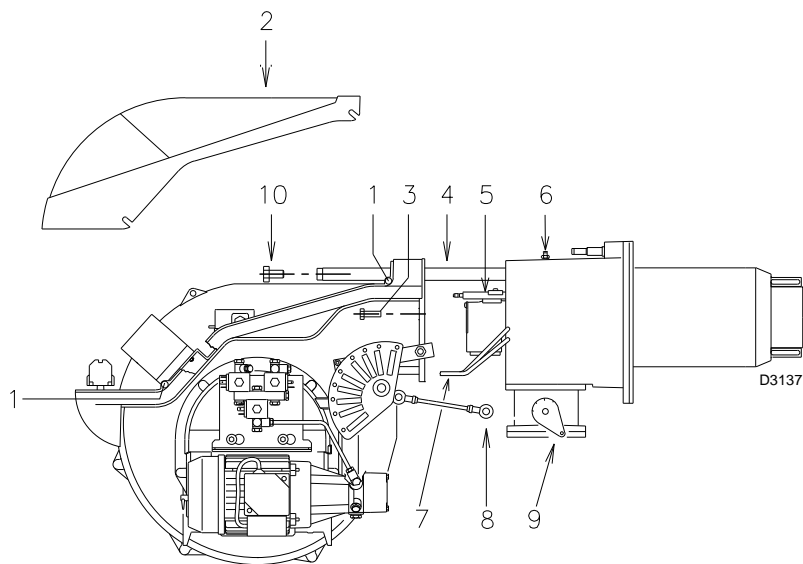

Fig. 45
Open the burner and make sure that all components of the combustion head are in good condition, not deformed by the high temperatures, free of impurities from the surroundings and correctly positioned. If in doubt, extract the internal part 5)(Fig. 45).
- Loosen screws 1)(Fig. 45) and withdraw the cover 2).